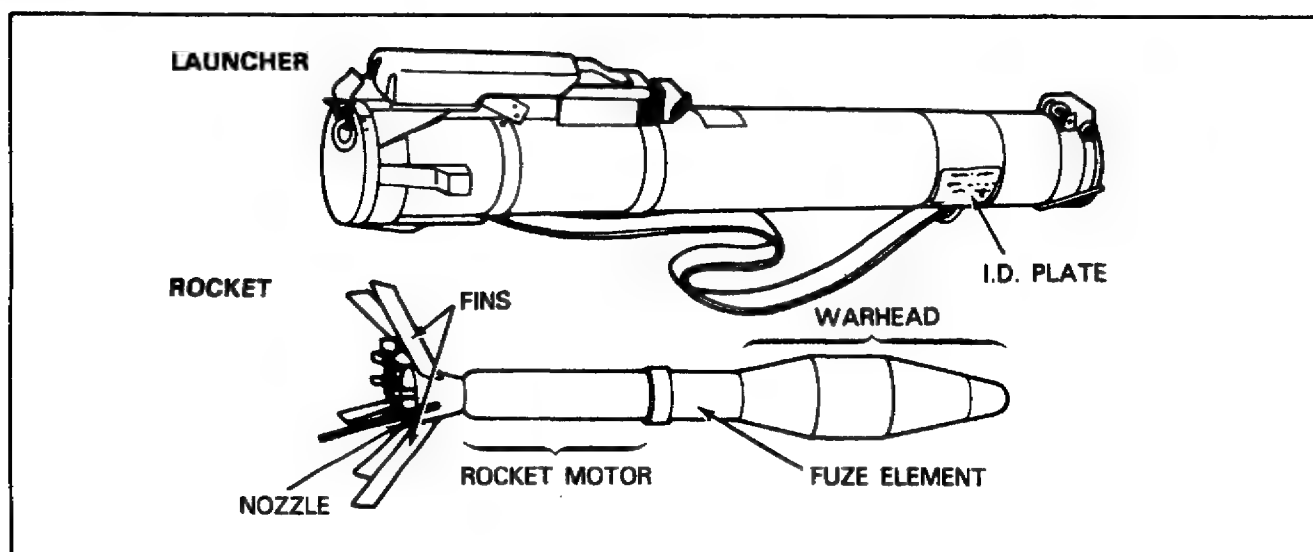

Figure 37. 66mm LAW System.
**66mm Light Antitank Weapon.** The 66mm light antitank weapon, commonly known as the LAW system, consists of a HEAT rocket packaged in a container that is also the launcher. See Figure 37. The launcher is made of fiberglass and aluminum. The rocket is sealed inside the launcher. (Figure 37 shows the launcher and rocket separated for the sake of exposition, but the rocket can not actually be removed from the launcher.) The assembly is about 26 inches long and extends telescopically to about 35 inches before firing. The rocket is 66mm in diameter and about 20 inches long.